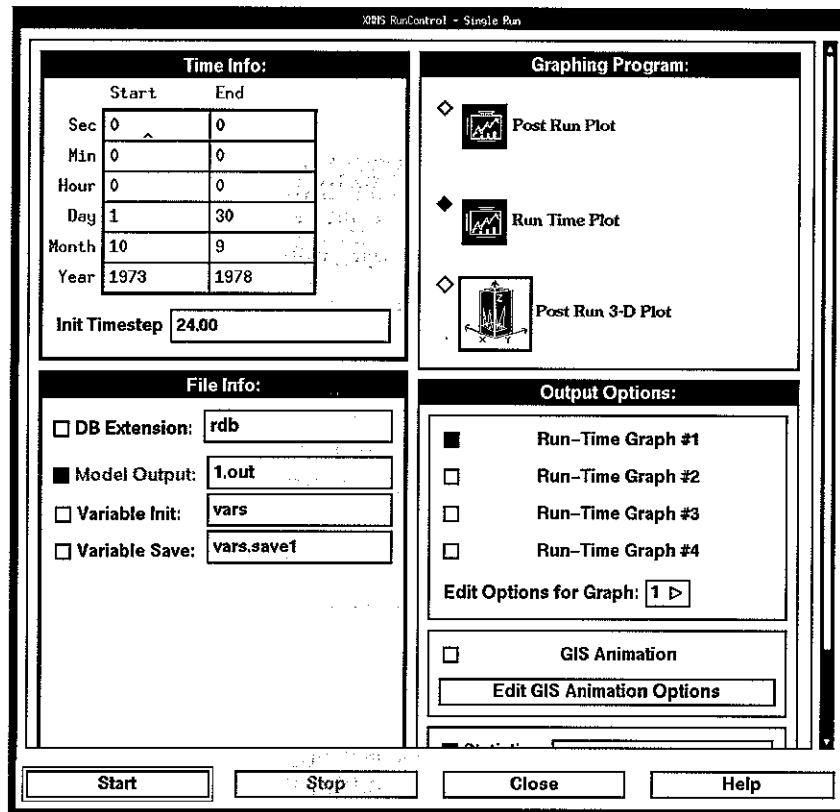
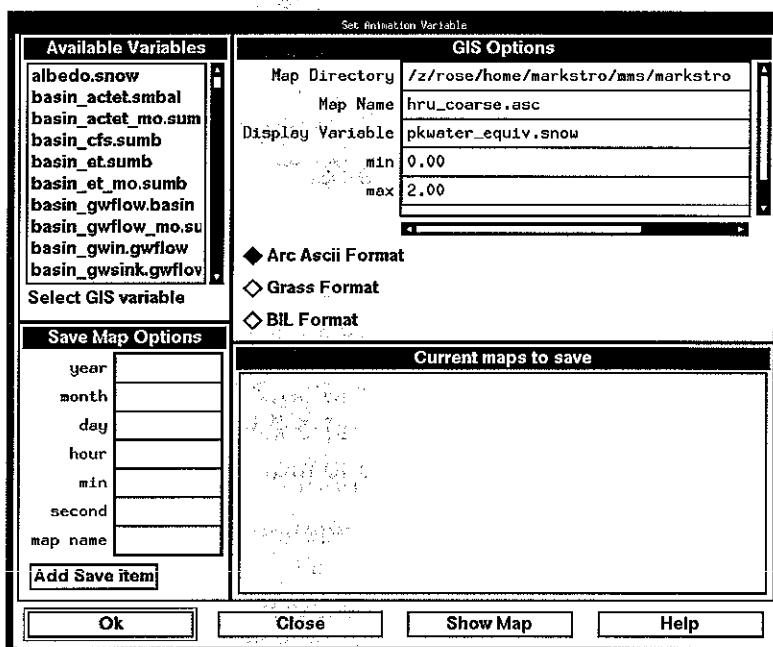
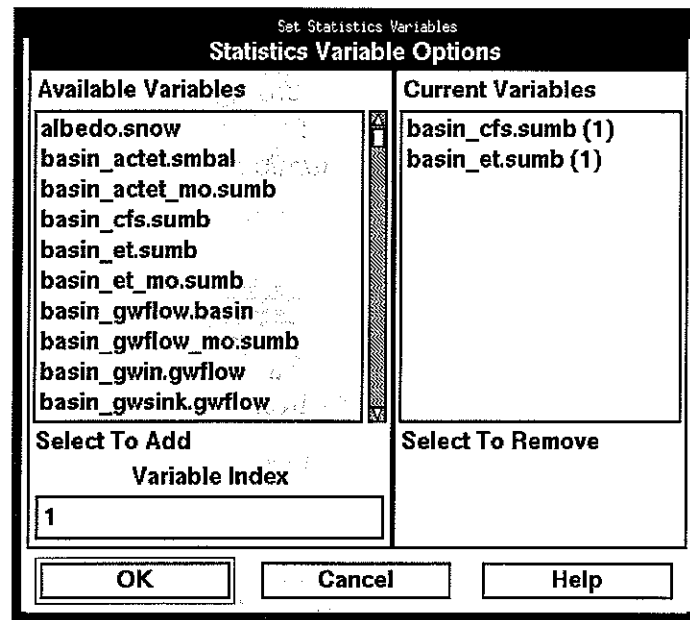

Figure 4.12 Single Run Control window.
Figure 4.20 Set Animation Variables window.
Figure 4.21 Statistics Variables Options window.
This option enables the user to run the model for a selected period of time using the parameter and data files shown in the *MMS Main Interface* menu (fig. 4.2). The *Single Run Control* window (fig. 4.12) contains a number of features that can be used to define the period of the run, select a variety of analyses to be conducted on the run output, and specify file names where output is to be written.
Options to enable the selection of the variables to be displayed with the graphing tools and to turn selected graphs on and off are provided in the *Output Options* section in the lower right quadrant of the *Single Run Control* window (fig. 4.12).
When the *Edit GIS Animation Options* button on the *Single Run Control* window (fig. 4.12) is pushed, the *Set Animation Variable* window (fig. 4.20) will appear. The user must specify the path and name of a valid raster map in the *Map Directory* and *Map Name* fields. This is typically the map that has the basin subareas delineated on it. Next, select a variable from the Available Variables list which corresponds to the specified map. Set the variable display range in the min and max fields. These are the minimum and maximum values over which this variable may occur. Enter the number of divisions into which the range from *min* to *max* is to be divided in the # Divisions field. Finally, the format of the raster map file should be specified. These formats include Arc raster ASCII, Grass Raster, and BIL.
When the *GIS Animation* toggle button is activated on the *Single Run Control* window (fig. 4.12), and the *Start* button is pushed, an additional run controller will appear. Users can control the speed of the animation as well as step forward in single time increments.
*Edit Statistics Options* - Pushing the *Edit Statistics Variables* button on the *Single Run Control* window (fig. 4.12) will activate the *Statistics Variable Options* window (fig. 4.21). The *Available Variables* list is a list of all the declared variables in the model. Clicking on a variable name with the *right* mouse button opens a help window that provides the definition, units, and dimensions of the variable. Clicking on a variable with the *left* mouse button will add the variable to the *Current Variables* list. Clicking on a variable in the *Current Variables* list with the *left* mouse button will remove it from the list. For dimensioned variables, the *Variable Index* box may be used to specify the dimension
The statistics produced for each variable are the mean, standard deviation, skewness, minimum, maximum, and a histogram. These statistics are automatically saved in a file in the *< user\_workspace>/output* directory. The name for this file is specified in the *Statistics* box above the *Edit Statistics Variables* button (fig. 4.12). A file called *statvar.dat* is also created in the *output* directory and contains the values of the variables listed in the *Current Variables* box (fig. 4.21) for each time step.
*Edit GIS Output Variables Option* - Pushing the *Edit GIS Output Variables* button on the *Single Run Control* window (fig. 4.12) will activate the *GIS Output Options* window. The *Available Variables* list is a list of all the declared variables in the model. Clicking on a variable name with the *right* mouse button opens a help window that provides the definition, units, and dimensions of the variable. Clicking on a variable with the *left* mouse button will add the variable to the *Current Variables* list. Clicking on a variable in the *Current Variables* list with the *left* mouse button will remove it from the list. Variables in the *Current Variables* list will be output in Arc View file format in the output directory. There will be one output file for each dimension and all variables of the same dimension will be written to the same file.
Clicking on the *Start* button (fig. 4.12) will begin the model run.
The model run may be stopped by the user prior to run completion by clicking on the *Stop* button (fig. 4.12).